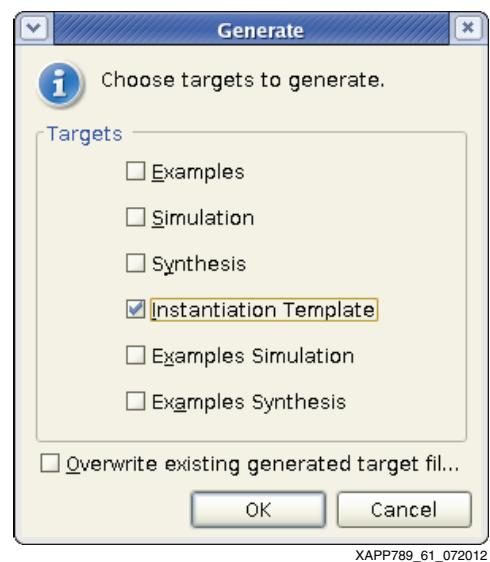

Figure 61: Generate Dialog Box
56. Select **Instantiation Template** in the Generate dialog box and click **OK** (Figure 61).